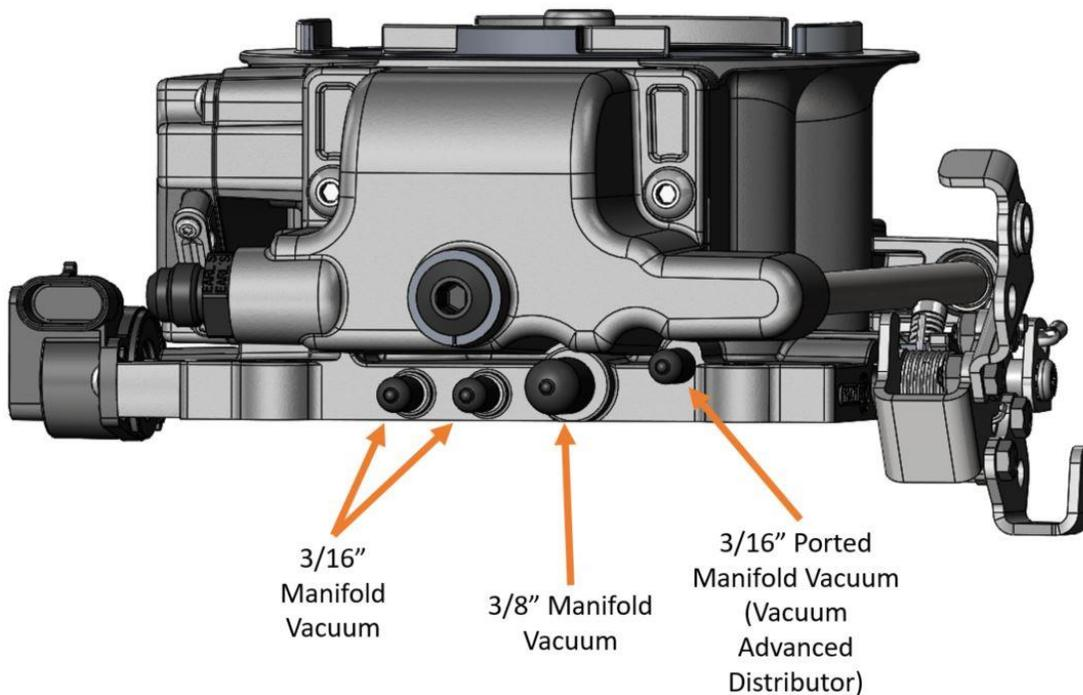

Figure 3
5. Reconnect the appropriate vacuum hoses to the Sniper EFI throttle body. **Be sure to plug any vacuum sources not used on both the Sniper EFI Throttle Body and on the Engine.** There are a total of 3 vacuum ports in the front of the throttle body, one in the rear that can be used with supplied brake booster vacuum adapter, and a ported manifold vacuum source on the front of the throttle body. See **Figure 3** for diagram of vacuum ports.